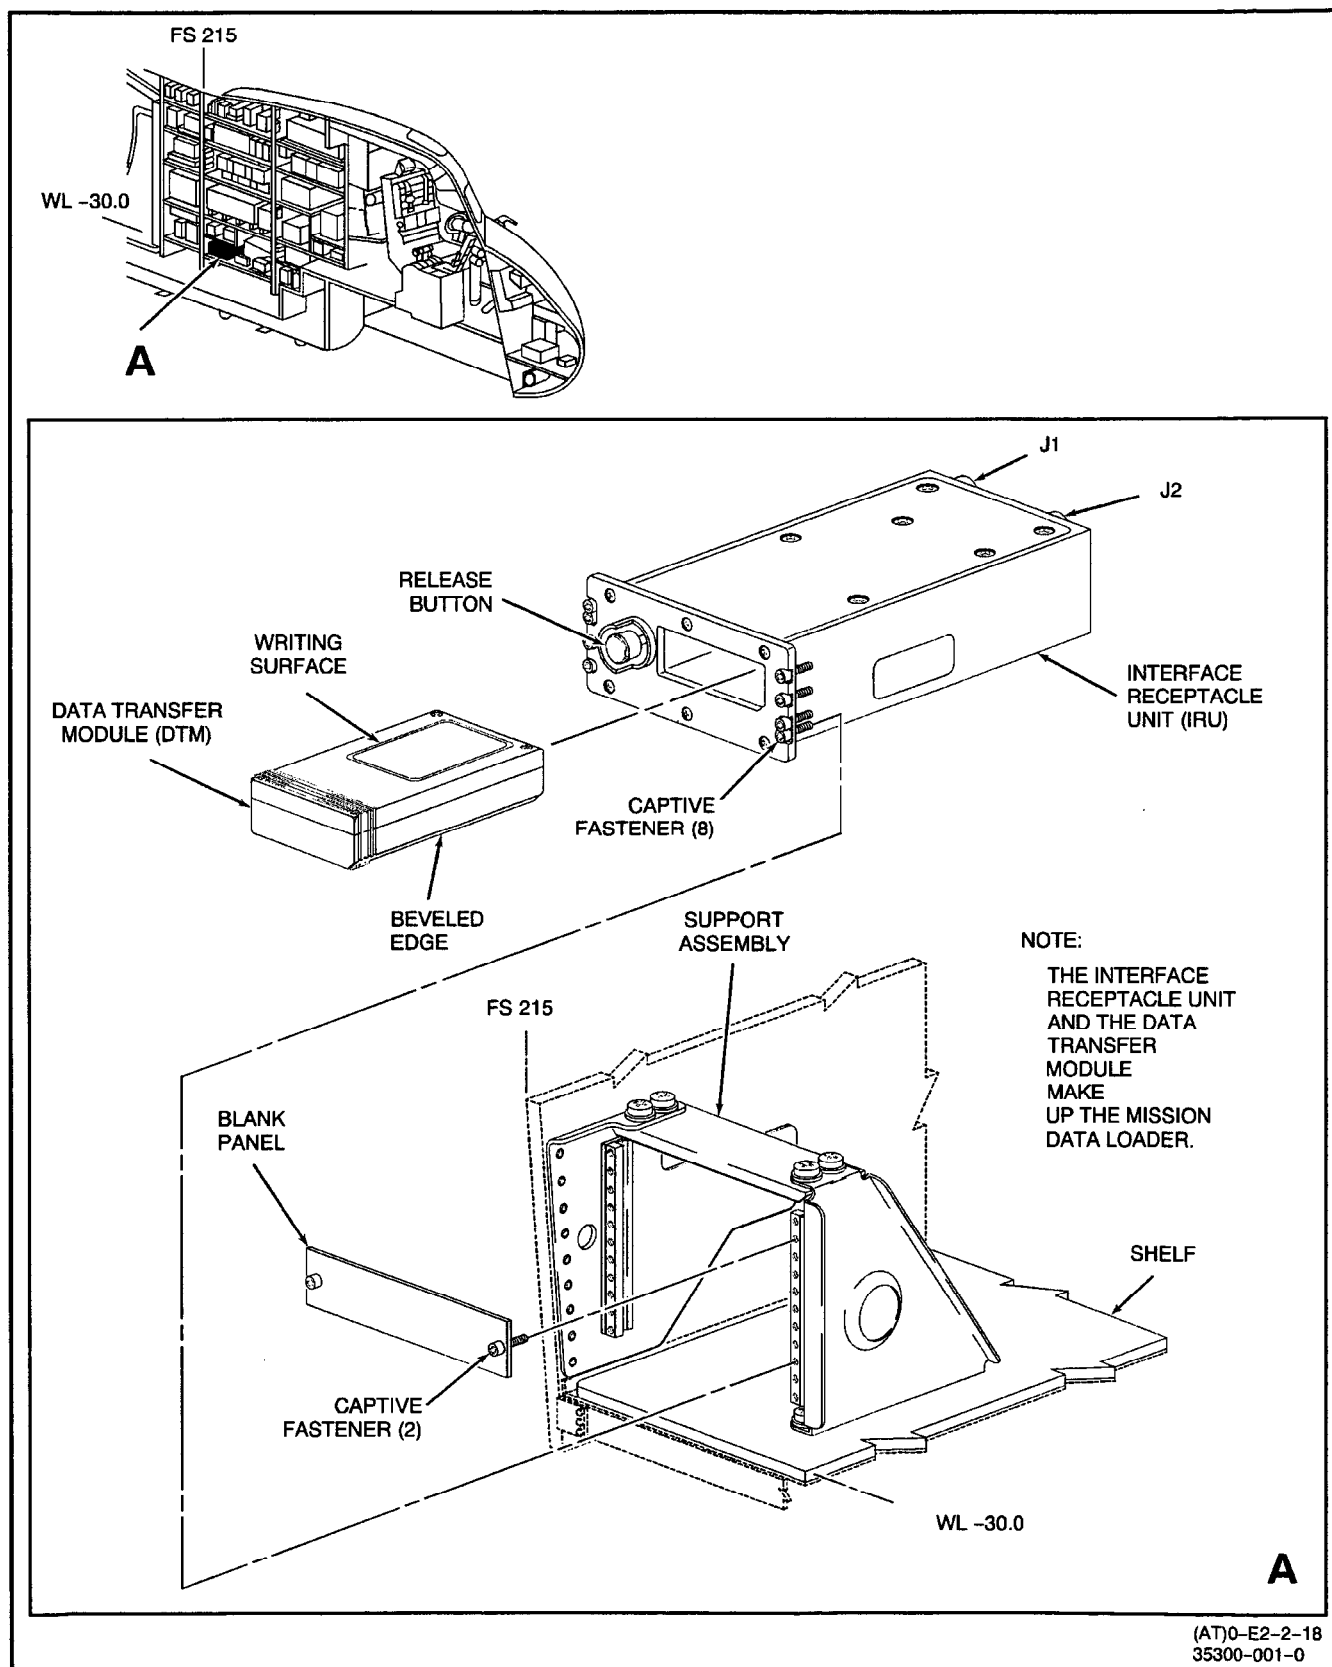

Figure 1. Removal and Installation of Mission Data Loader
- 8. REMOVAL. (Figure 1.)
9. INSTALLATION. (Figure 1.)